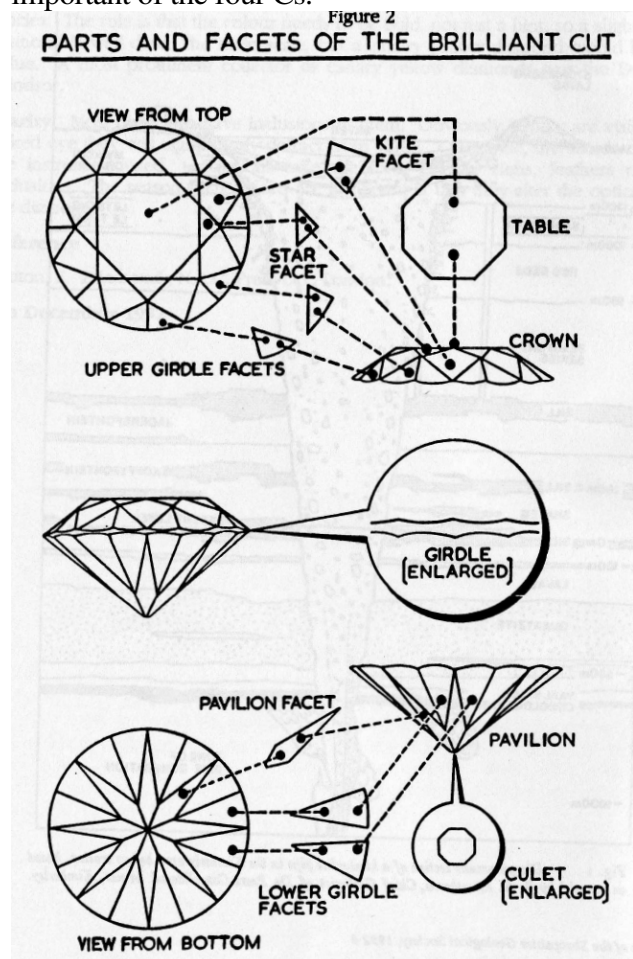

Figure 2: Parts and facets of the Brilliant Cut.
**Cut;** All diamonds used in jewellery are cut. The major cutting centres of the world are Antwerp, Tel Aviv, Amsterdam, and London. Most diamonds are cut to a cone shape known as a "brilliant". This cut was developed to give maximum scintillation from the stone. Diamonds cut prior to 1919 (when this cut was first used) have far less scintillation and hence less value. One of the most common crystalline forms of diamond is the octahedron. By simply slicing the top off, we get close to the "standard" shape. For a 1-carat stone, it takes a day to make the initial cut. Only diamond cuts diamond, and then only slowly. The ideal diamond is 2/3 pavilion, 1/3 crown (Figure 2). If the proportions are not right, light will not be totally internally reflected and hence the emergent light will be less intense. Thus cut is the most important of the four Cs.